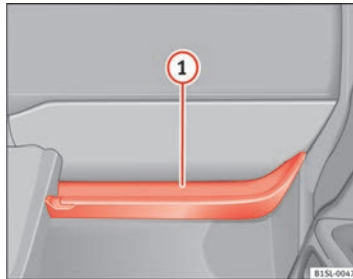

Fig. 74 Open storage compartment on the passenger side
In the open storage compartment there is a hook for bags ⇒ Fig. 74 ①.